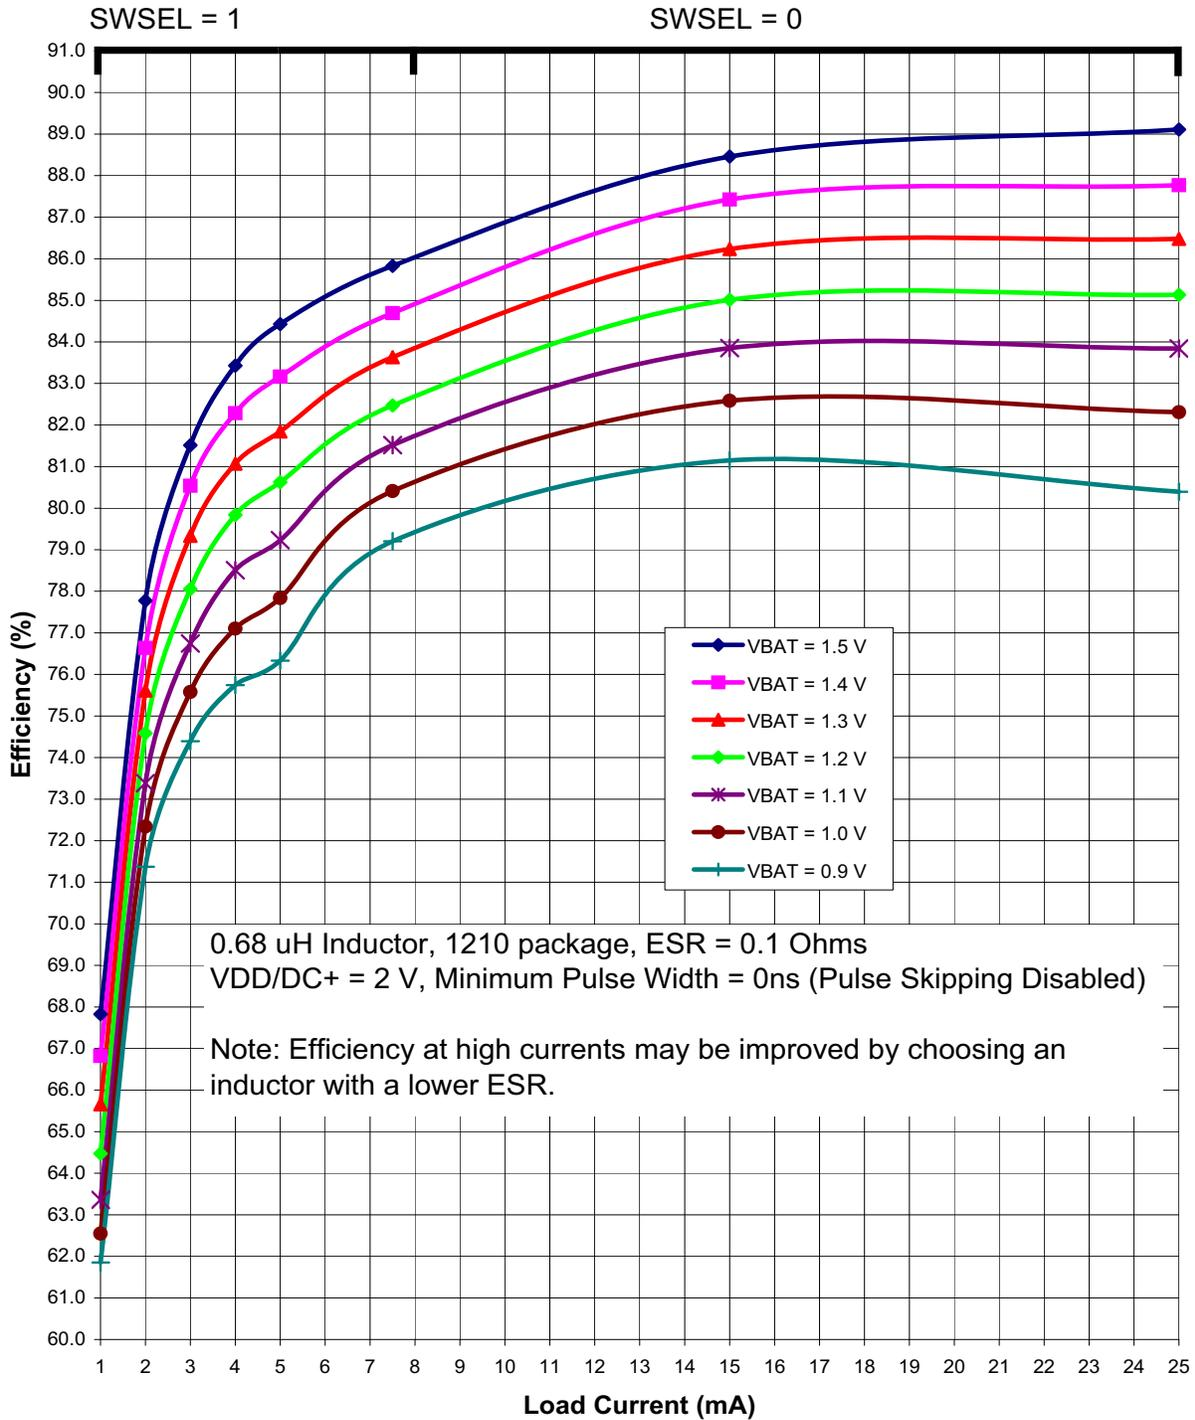
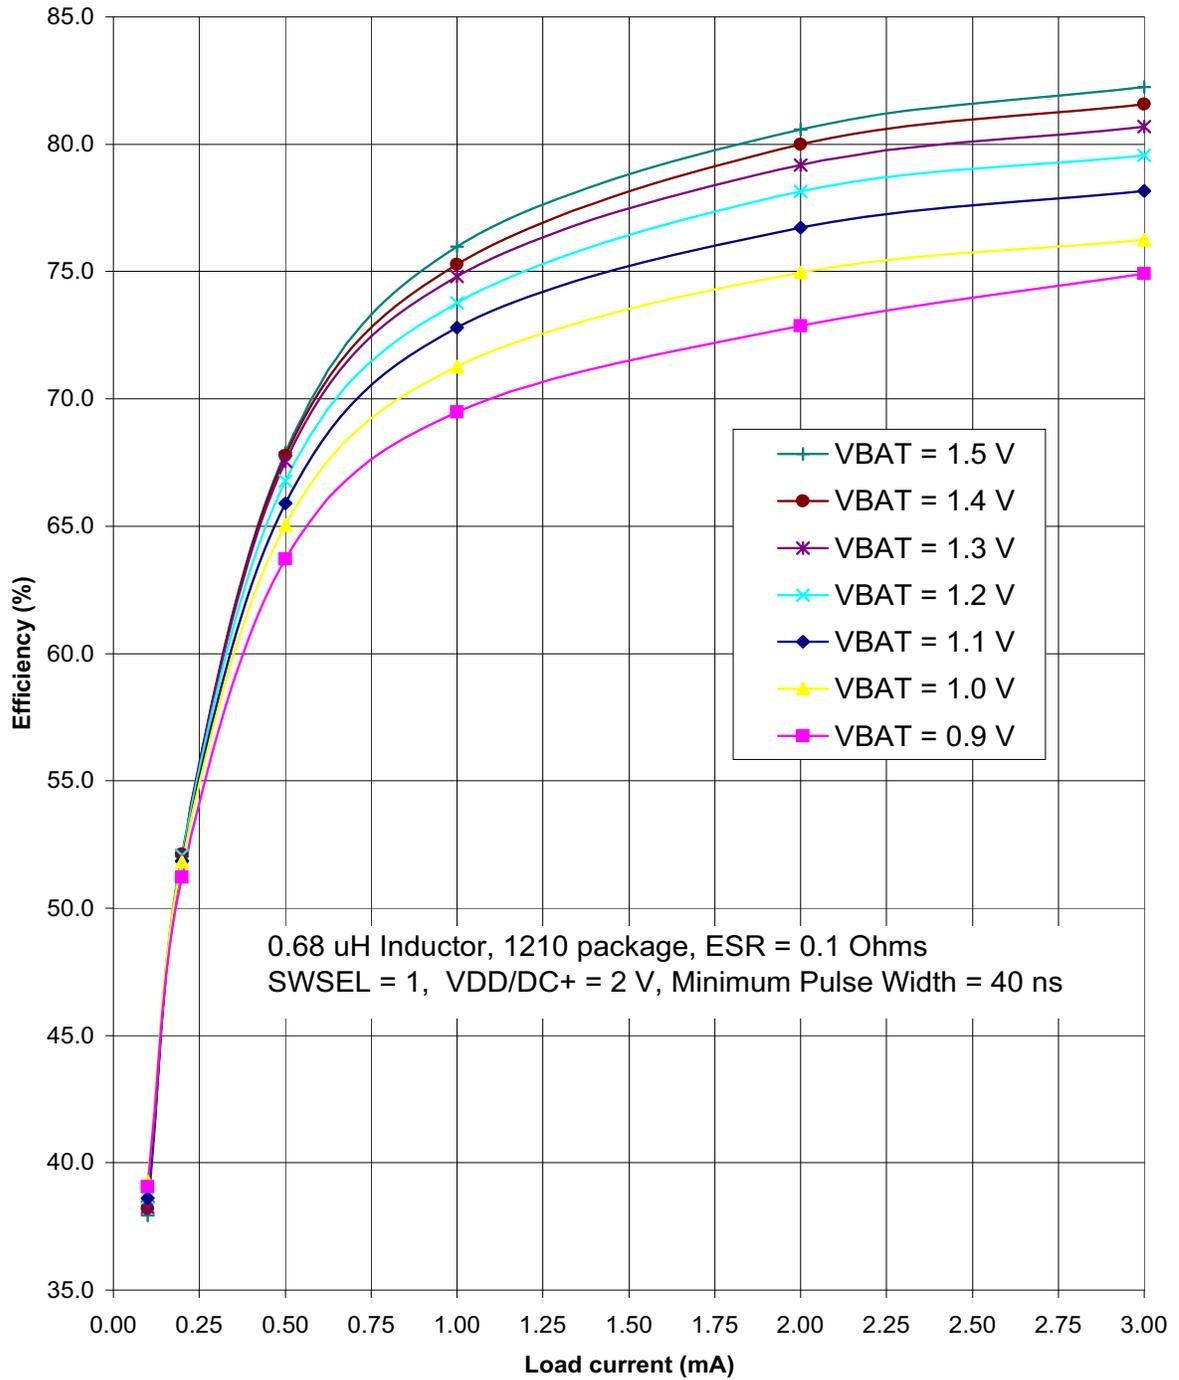

Figure 4.3. Typical DC-DC Converter Efficiency (High Current, VDD/DC+ = 2 V)
Figure 4.5. Typical DC-DC Converter Efficiency (Low Current, VDD/DC+ = 2 V)
<ol style="list-style-type: none"> Based on device characterization data; Not production tested. SYSCLK must be at least 32 kHz to enable debugging. Digital Supply Current depends upon the particular code being executed. The values in this table are obtained with the CPU executing an "sjmp \$" loop, which is the compiled form of a while(1) loop in C. One iteration requires 3 CPU clock cycles, and the Flash memory is read on each cycle. The supply current will vary slightly based on the physical location of the sjmp instruction and the number of Flash address lines that toggle as a result. In the worst case, current can increase by up to 30% if the sjmp loop straddles a 64-byte Flash address boundary (e.g., 0x007F to 0x0080). Real-world code with larger loops and longer linear sequences will have few transitions across the 64-byte address boundaries. Includes oscillator and regulator supply current. IDD can be estimated for frequencies ≤14 MHz by simply multiplying the frequency of interest by the frequency sensitivity number for that range, then adding an offset of 90 μA. When using these numbers to estimate I_{DD} for >14 MHz, the estimate should be the current at 25 MHz minus the difference in current indicated by the frequency sensitivity number. For example: V_{DD} = 3.0 V; F = 20 MHz, I_{DD} = 4 mA – (25 MHz – 20 MHz) x 0.102 mA/MHz = 3.5 mA assuming the same oscillator setting. The supply current specifications in Table 4.2 are for two cell mode. The VBAT current in one-cell mode can be estimated using the following equation: $\text{VBAT Current (one-cell mode)} = \frac{\text{Supply Voltage} \times \text{Supply Current (two-cell mode)}}{\text{DC-DC Converter Efficiency} \times \text{VBAT Voltage}}$ <p>The VBAT Voltage is the voltage at the VBAT pin, typically 0.9 to 1.8 V. The Supply Current (two-cell mode) is the data sheet specification for supply current. The Supply Voltage is the voltage at the VDD/DC+ pin, typically 1.8 to 3.3 V (default = 1.9 V). The DC-DC Converter Efficiency can be estimated using Figure 4.3–Figure 4.5.</p> Idle IDD can be estimated by taking the current at 25 MHz minus the difference in current indicated by the frequency sensitivity number. For example: V_{DD} = 3.0 V; F = 5 MHz, Idle I_{DD} = 2.1 mA – (25 MHz – 5 MHz) x 0.079 mA/MHz = 0.52 mA.